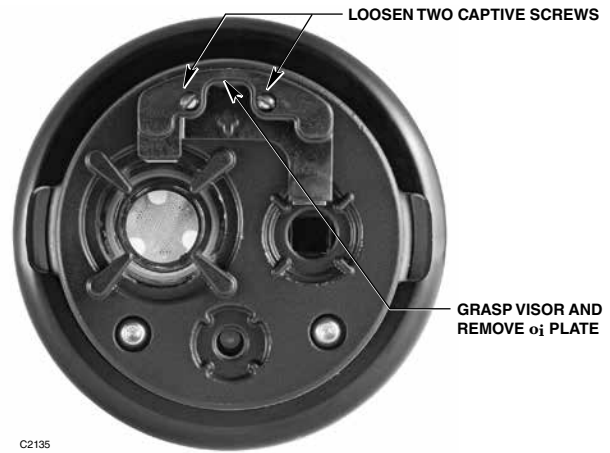

Figure 18—**oi** Plate Removal
2. Loosen the two captive screws, then grasp the **oi** plate by the visor and remove it from the detector. See Figure 18.